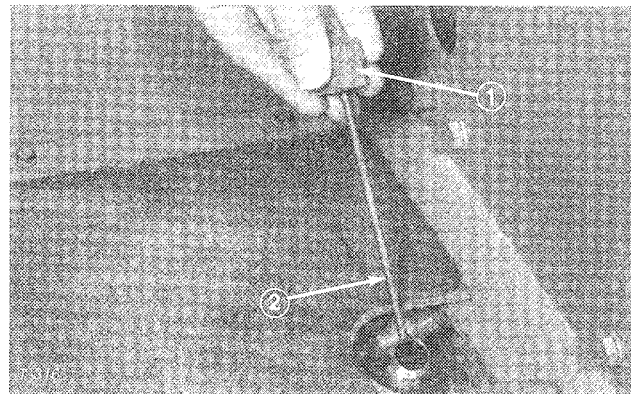

Figure 19
2. Unscrew dipstick cap (Fig. 19) from the filler neck and wipe it with a clean rag. Screw dipstick cap fingertight onto filler neck. Unscrew the dipstick and check level of oil. If level is not within 1/2 inch (13 mm) from the groove in the dipstick (Fig. 19), add enough oil to raise level to groove mark. **DO NOT OVERFILL** by more than 1/2 inch (13 mm) above groove.